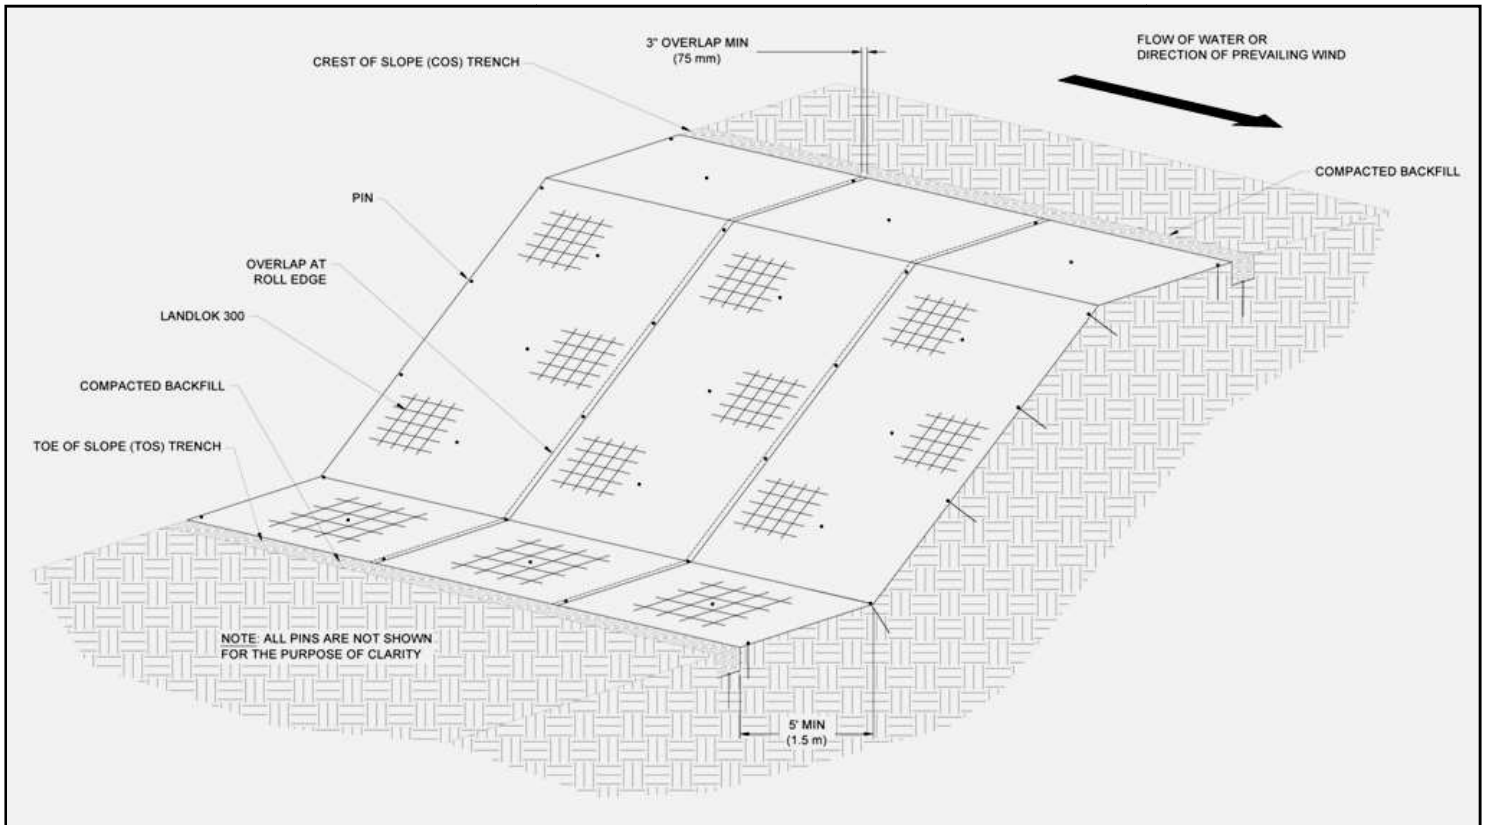

Figure 13: Completed Slope Isometric View
An example isometric view (Figure 13) of a slope armored with Landlok 300 can be seen below for overall reference. Consult Propex Engineering Services at (423) 553-2450 with any questions that you may have.